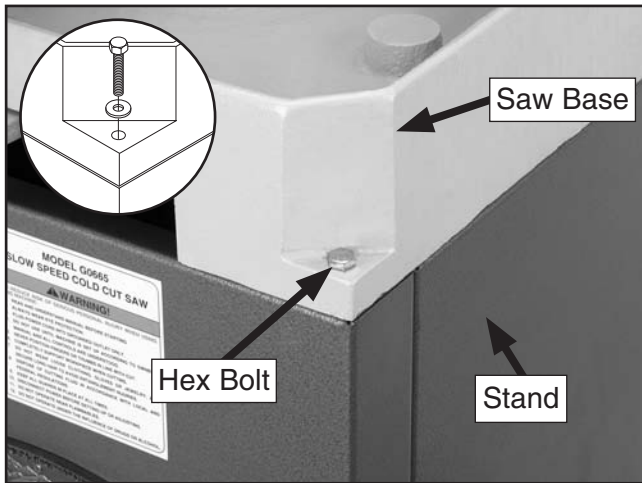

Figure 12. Mounting saw onto stand.
4. Place the saw onto the stand and secure it with the four M8-1.25 X 35 hex bolts and flat washers (**Figure 12**).